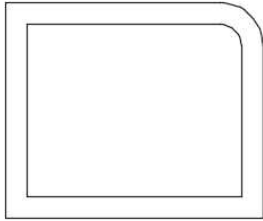

FIGURE 2.26: The box with the curved radii in the upper-right corner
7. Restart the command, set the radius to **1.0**, and then fillet the outer upper-right corner. Your box should look like Figure 2.26.